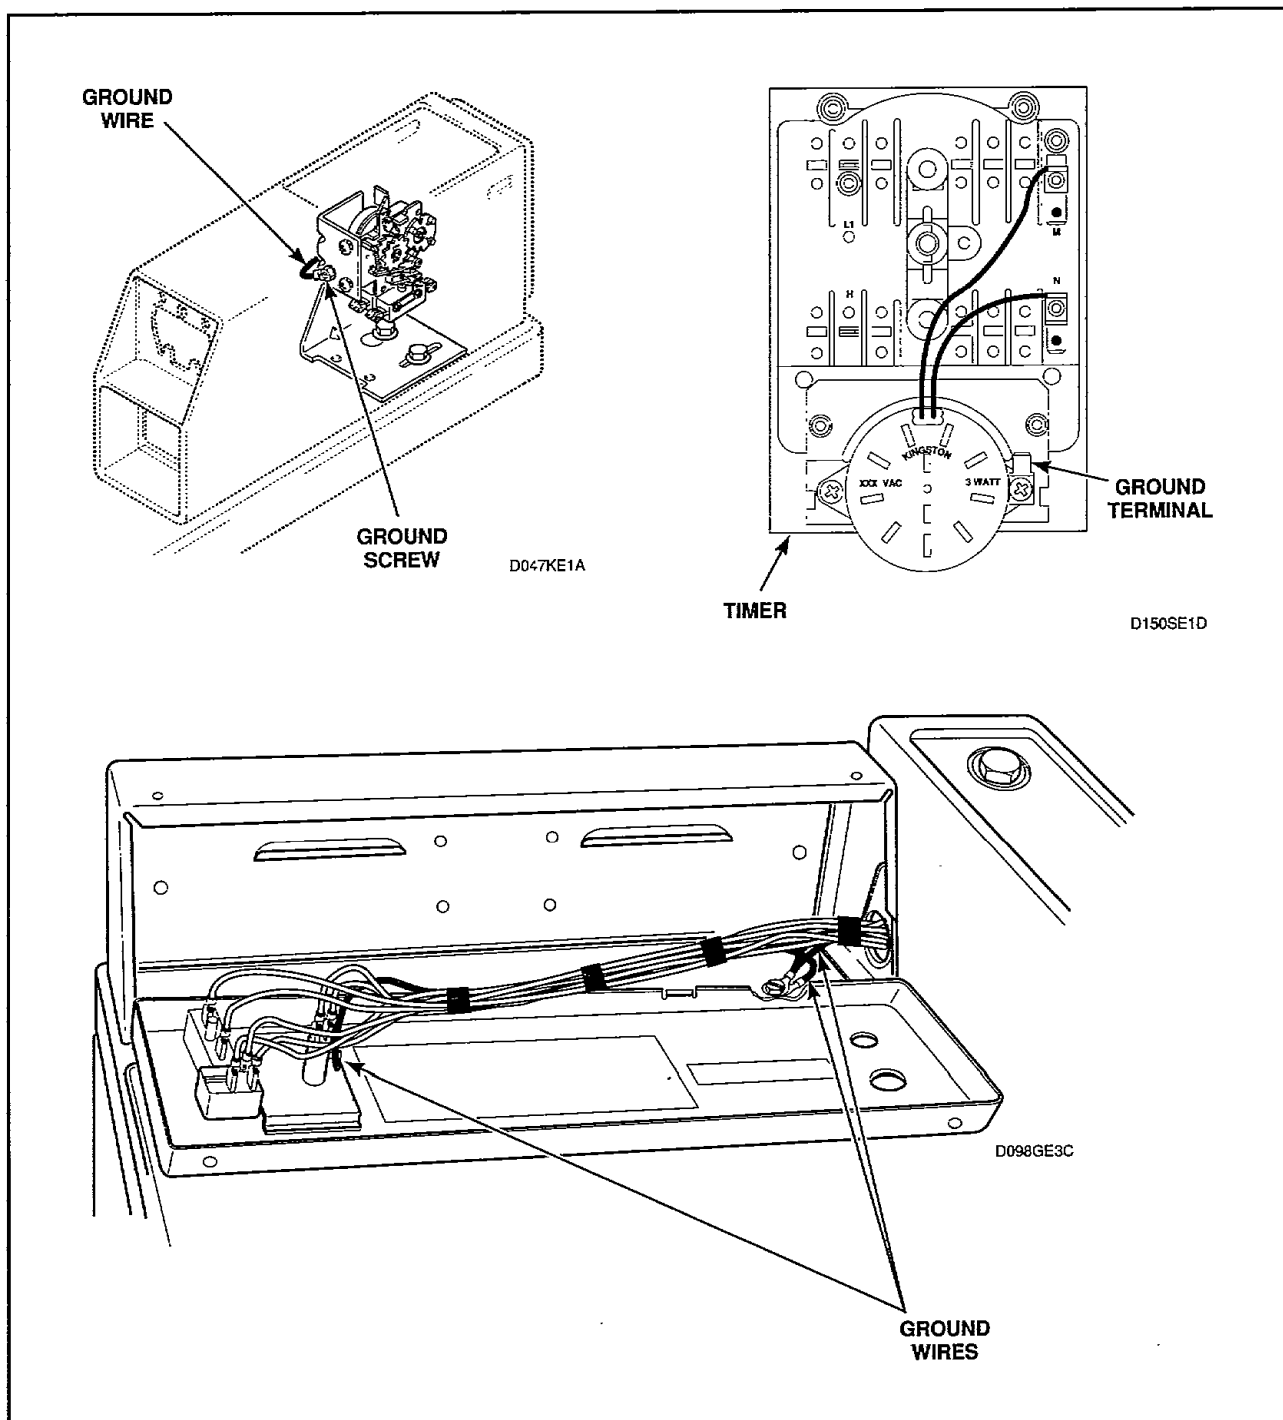

Figure 4
- Remove ground wire from ground terminal on timer, *Figure 4*.
- b. Disconnect all wires to TEMPERATURE SWITCH, PUSH-TO-START switch and INDICATOR LIGHT and remove ground clip and screw holding ground wire to cabinet top and control panel, *Figure 4*. (Refer to appropriate wiring diagram when reconnecting wires.)
- Disconnect all wires to components, and remove ground clip and screw holding ground wire to cabinet top and control panel, *Figure 4*.